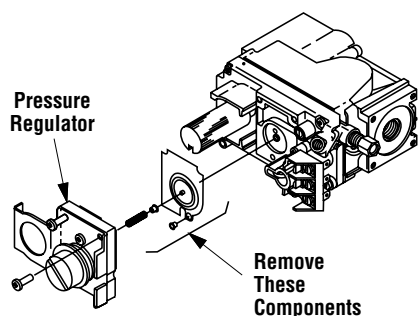

Figure 67
Step 4. Refer to **Figure 67** and the instructions provided with the kit. Using a Torx T20 tool or standard flat screwdriver, remove and discard the three pressure regulator mounting screws. Remove the pressure regulator, spring, poppet, diaphragm and bushing. Discard all removed components. Ensure the rubber gasket installed on the back of the replacement pressure regulator is properly positioned and install the new pressure regulator using the new screws supplied with the kit. Tighten screws to 25 In. lb. torque.